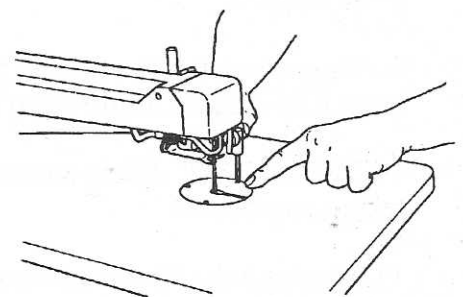

Fig.3
-If the insert is **below** the table surface, then use the Phillips screwdriver provided (see Fig.3) through one of the insert's four small diameter holes, and raise the screws (3) by turning counterclockwise. (See NOTE above.)
-If the insert is **above** the table surface, then lower the screws (3) by turning clockwise. (See NOTE above.)
Adjust all four screws so the insert is fully supported and flush with the table surface, as in Fig.3. This adjustment should only need to be done once, but you should periodically check to see that the table insert is flush with the scroll saw table.